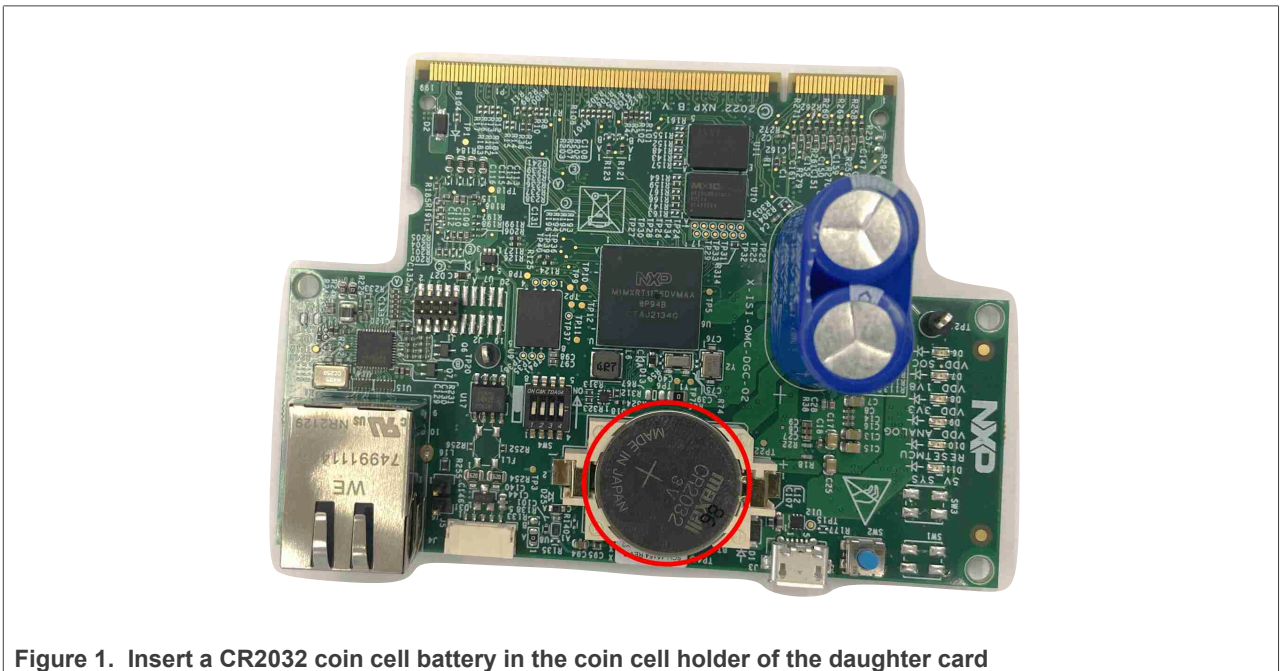

Figure 1. Insert a CR2032 coin cell battery in the coin cell holder of the daughter card
1. (Optional) Place a **CR2032 coin cell battery** in the coin cell holder of the daughter card as shown in Figure 1. The coin cell battery is required to power the `SNVS_LP` (Low Power) of the i.MX RT1176 MCU for RTC backup.